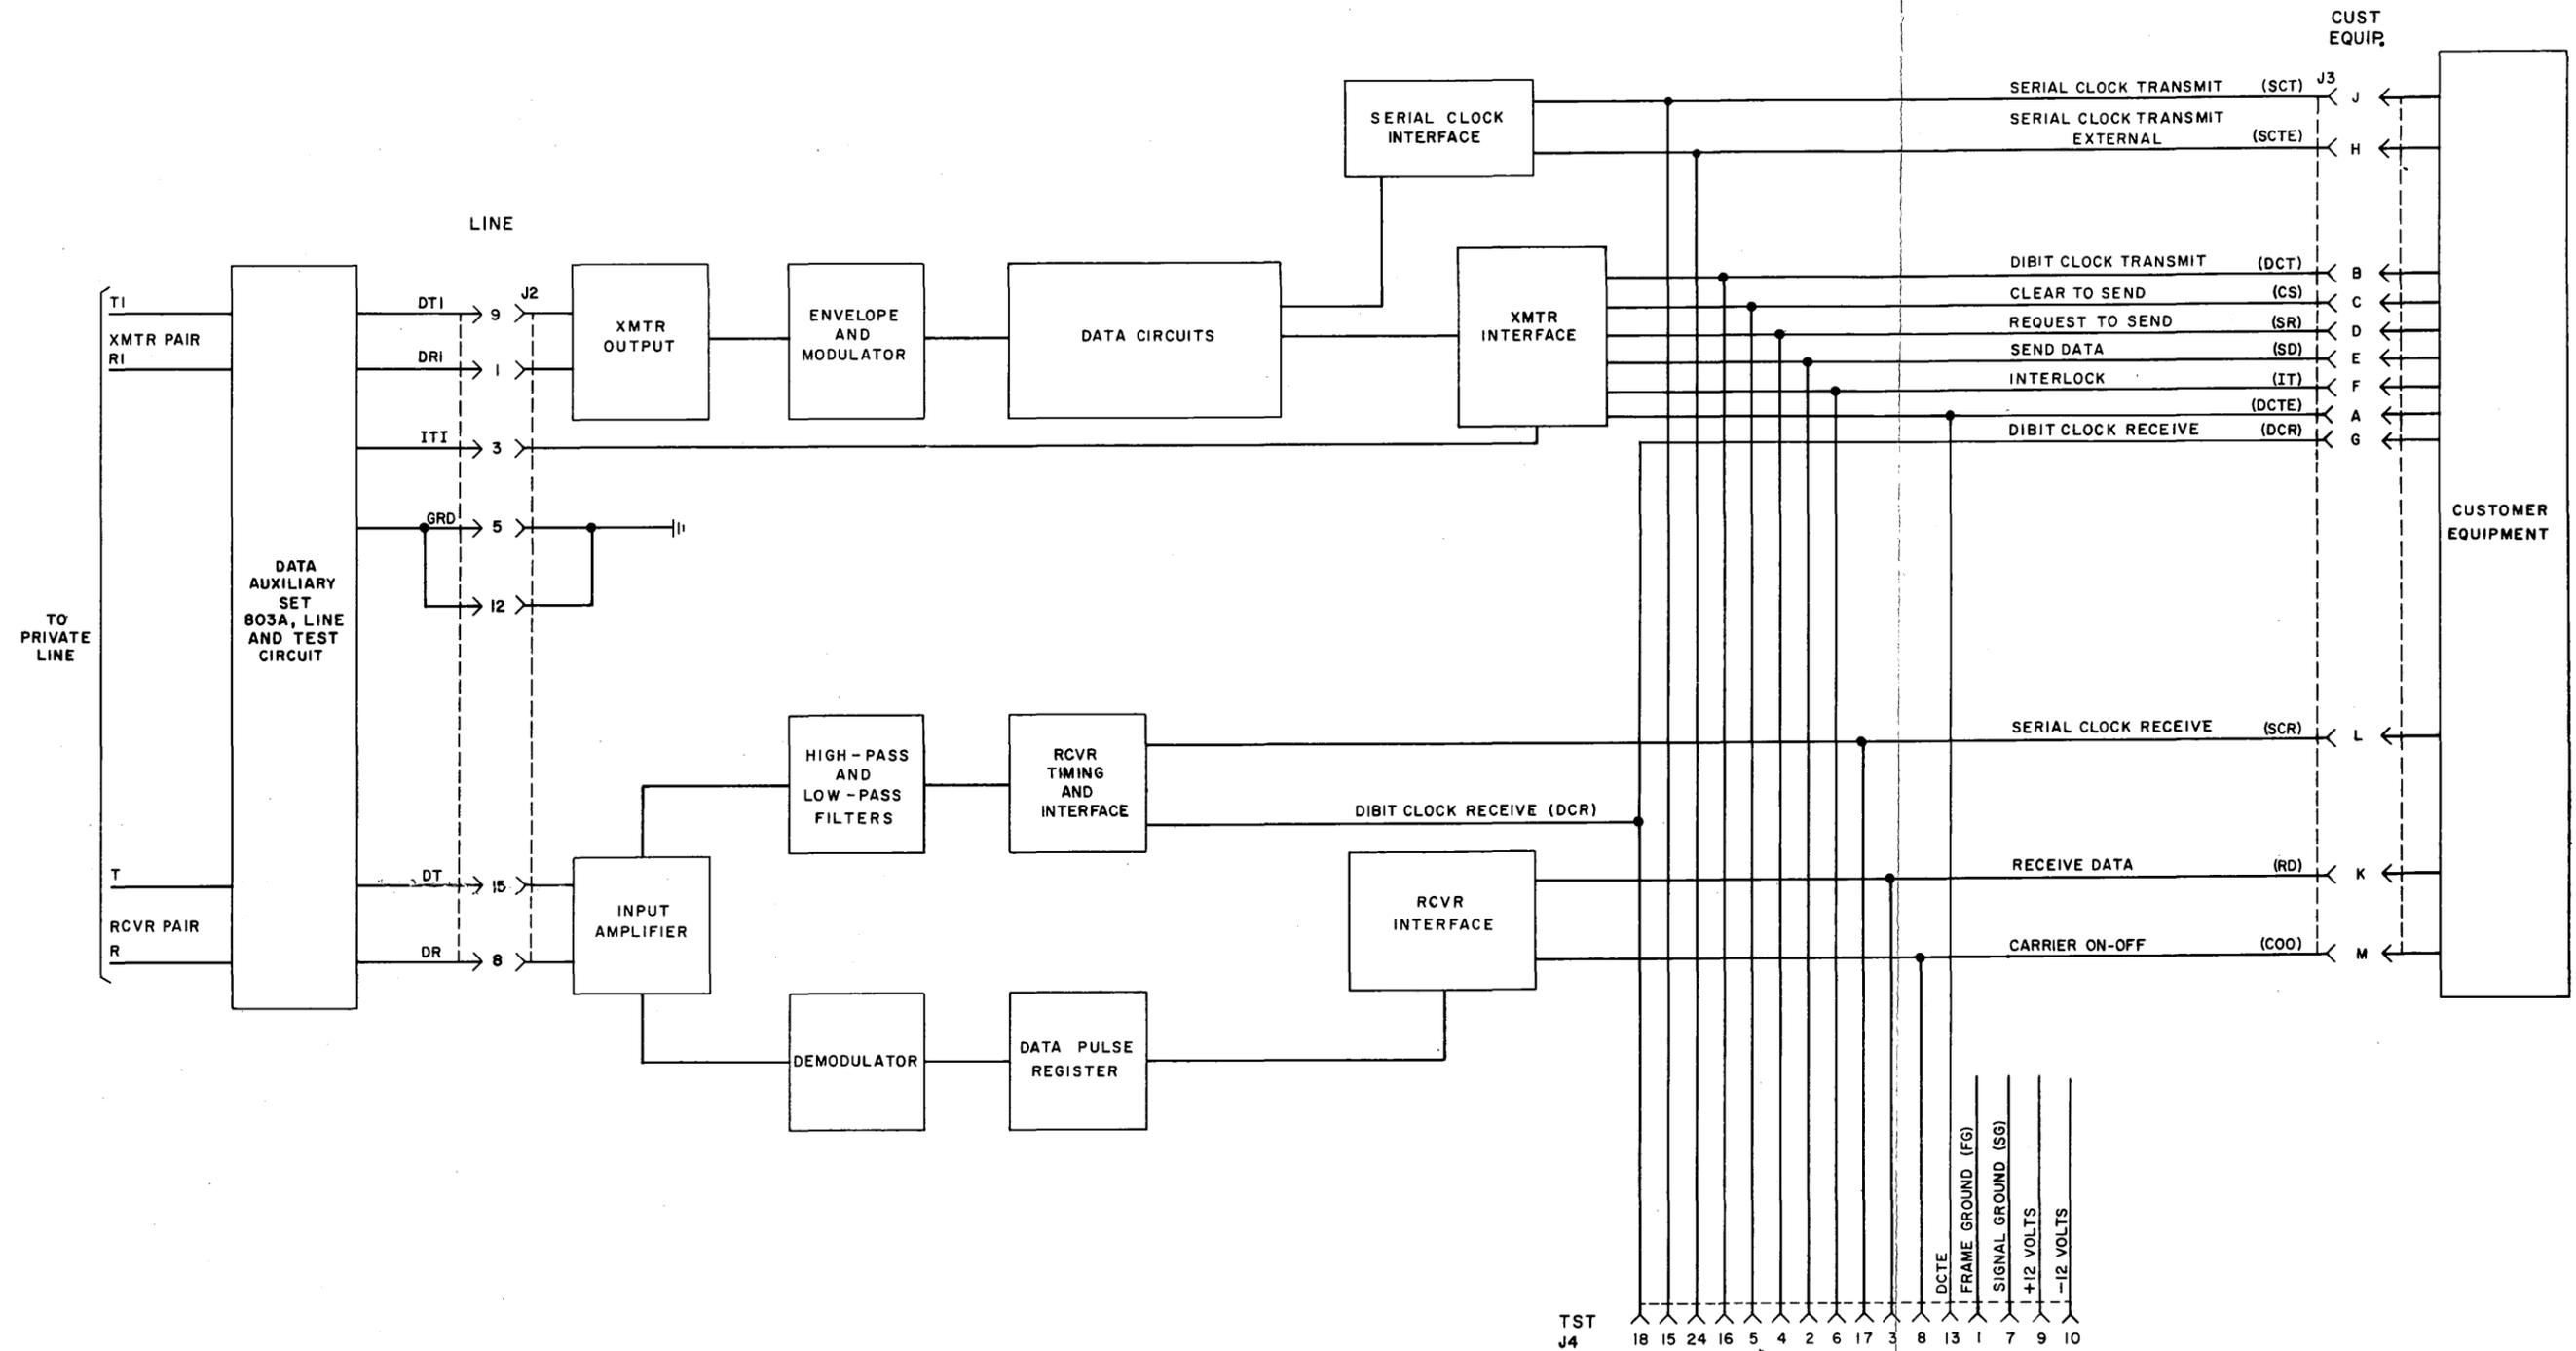

Fig. 4—Data Set 301B-Type and Data Auxiliary Set 803A, Block Diagram
**3.02** For a detailed description of the data set operation, refer to CD- and SD-1D033-01. Fig. 4 and 5 show simplified block diagrams of the data set.